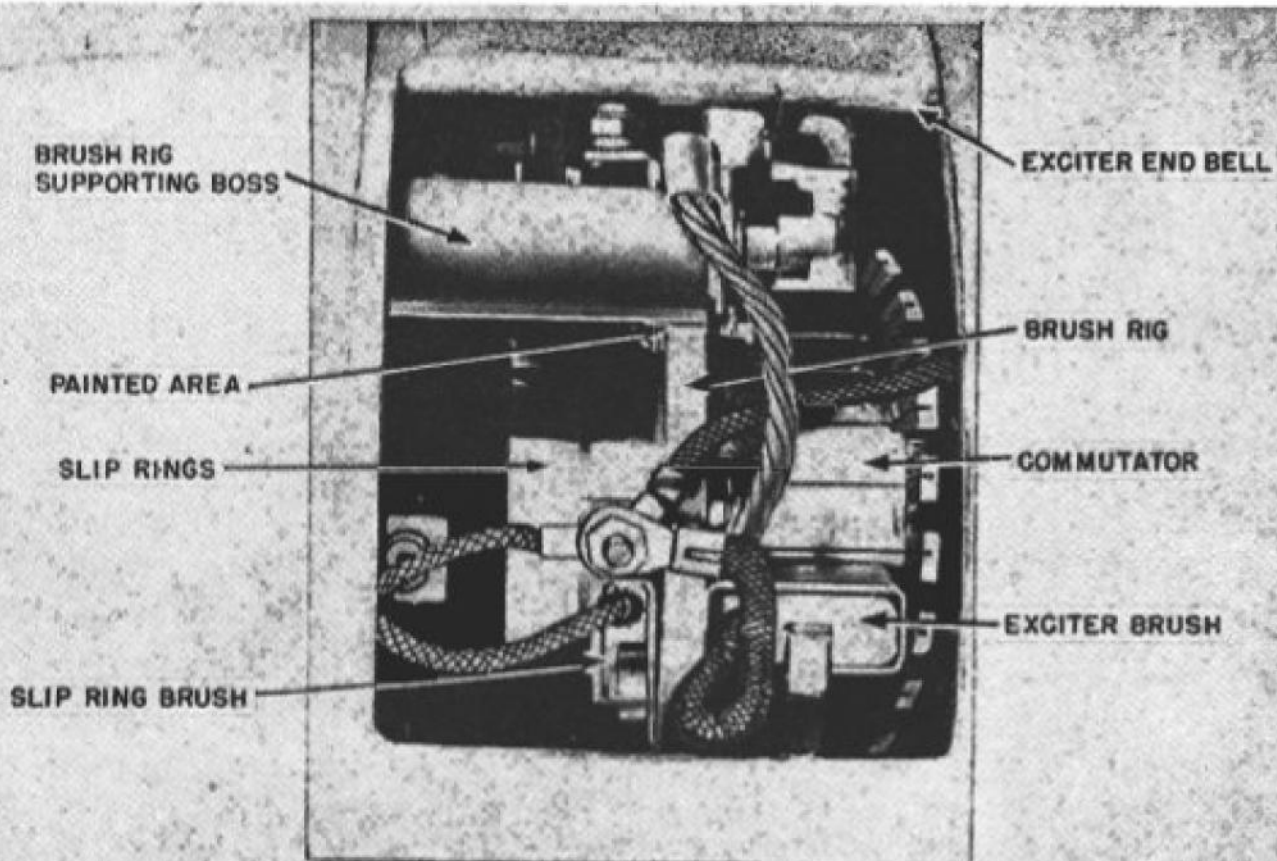

Figure 52. Neutral position of exciter brushes.
(4) The edge of the exciter brush has a small indentation that coincides with the edge of the upper left supporting boss when the ring is in proper neutral position (fig. 52). This spot is marked with yellow paint on both the ring and support boss. This setting of the brush ring in neutral position must be maintained.
(5) The slip rings require the same attention as the commutator except that there is no mica to undercut.
(6) After servicing the commutator, slip rings, and brushes, blow the sand, copper, and carbon dust from the generator.
(7) Every 1,024 operating hours, remove the bearing cover from the generator end-bell. Clean the old grease from the bearing recess and repack with general purpose grease No. 2 (WB2). Replace the cover. Use a new gasket if one is needed. Be sure to replace the retaining clips that hold the outer race of the ball bearing from turning.